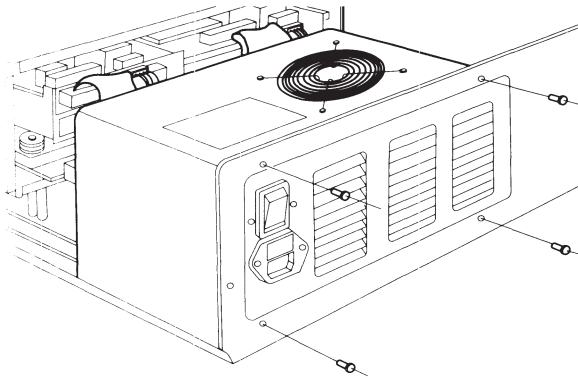

Figure 7-54. Power Supply Screws.
2. Remove the four screws securing the power supply assembly to the expansion unit chassis (Figure 7-54).